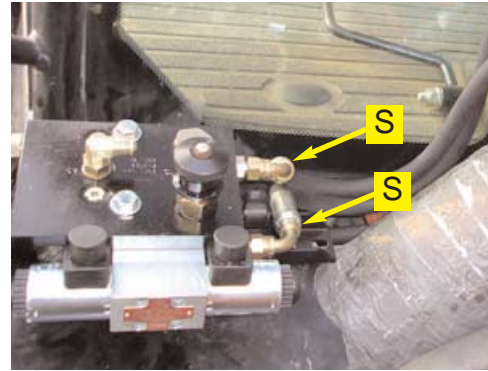

Figure 7a. Installed pressure and tank hoses at the automated steering block.
Connect the pressure hose (S) from the **P** port on the automated steering block to the pressure run tee fitting (**H**) installed in step 6. Connect the tank hose (S) from the **T** port on the Automated Steering Block to the tank run tee fitting (**H**) installed in step 6. (Figure 7a. and 7b.)